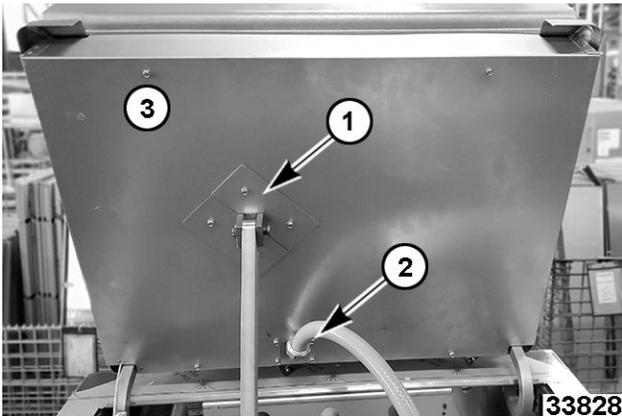

Fig. 51
- Remove lift arm (1, Fig. 51).
- B. Remove hose (2, Fig. 51) connection.
- C. Remove bottom panel mounting screws (3, Fig. 51).